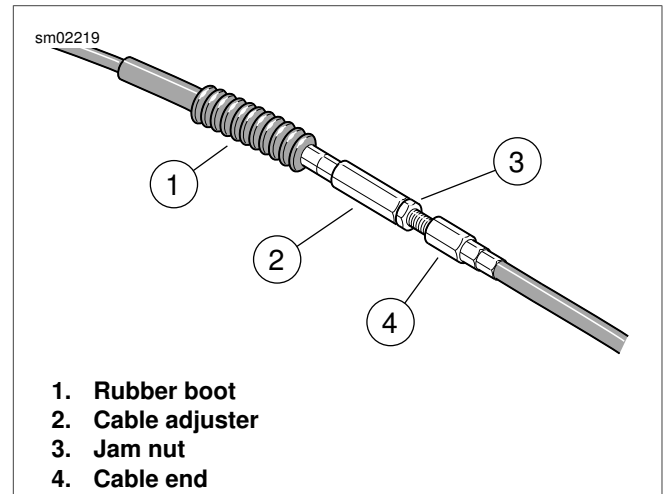
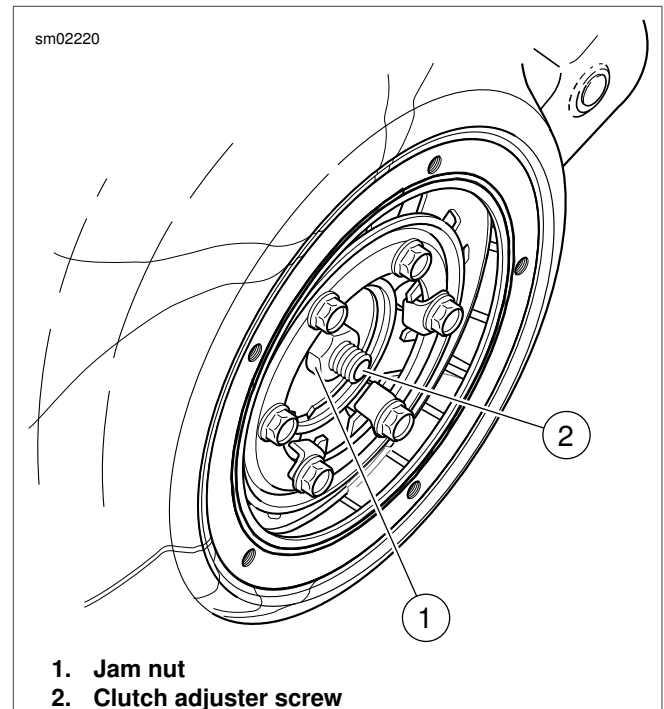

Figure 1-20. Clutch Cable Adjuster
Figure 1-21. Clutch Adjuster Screw
4. See Figure 1-20. Add free play to cable.
- a. Slide rubber boot (1) off cable adjuster.
- b. Holding cable adjuster (2) with 1/2 in. wrench, loosen jam nut (3) using a 9/16 in. wrench.
- c. Turn cable adjuster (2) until there is a large amount of free play at clutch hand lever.
5. See Figure 1-21. Loosen jam nut (1) on clutch adjuster screw (2). To take up all free play, turn screw inward (clockwise) until lightly seated. Activate the clutch lever to verify the balls are seated in the ramps.